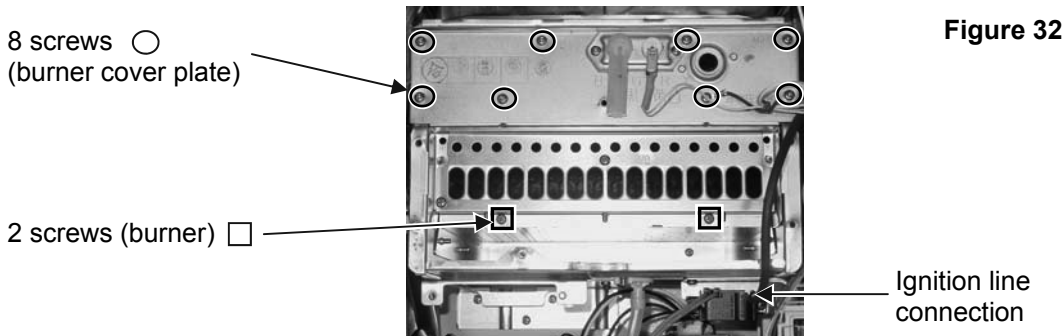

Figure 32
Remove Burner and Burner Cover Plate (Figure 32)
17. Unscrew the ignition line connection. (Figure 32)
Install Burner and Burner Cover Plate (Figure 32)